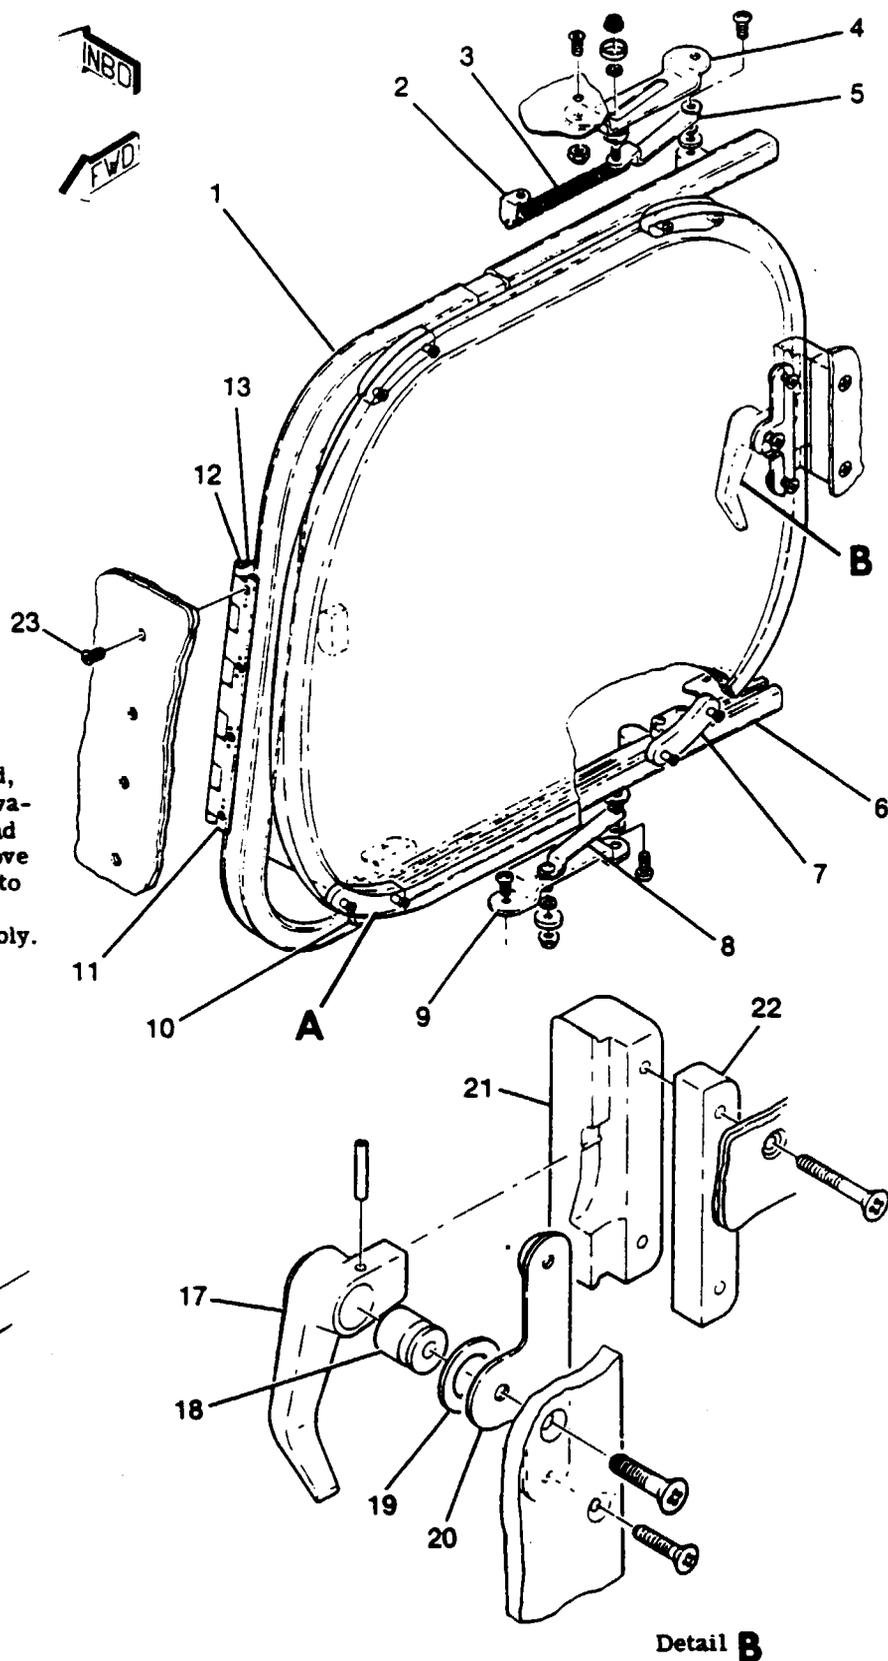

Figure 3-5. Cabin Door Sliding Window Installation.
- b. Rig all latch pins to dimensions shown in figure 3-5.